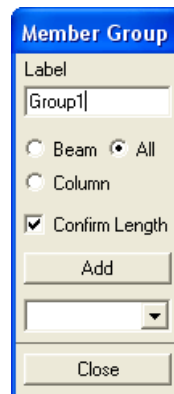

Figure 5-23 Member Group dialog box
- From the **Assign** menu, choose **Member Group**. The modeless dialog box of Figure 5-23 appears. To end member group assignment, choose the CLOSE button.